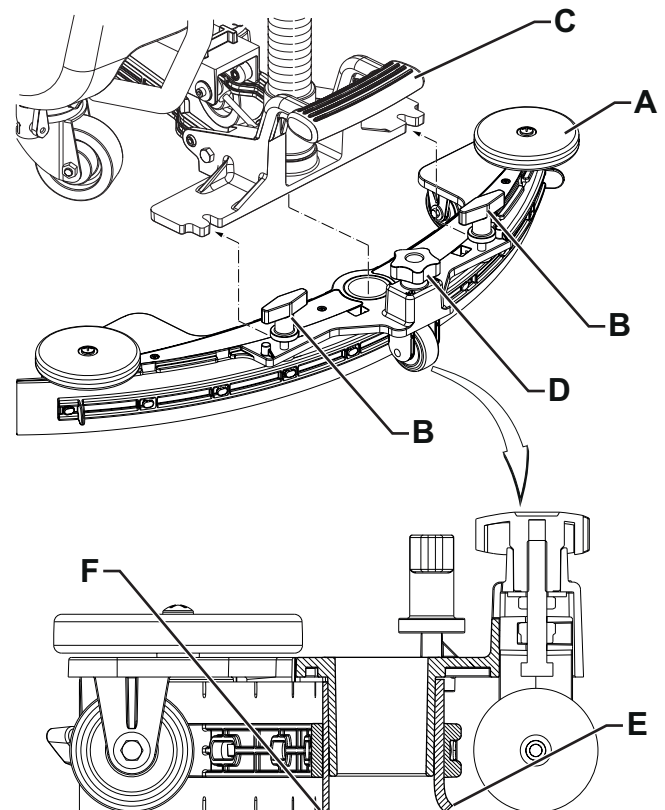

Figure 4
1. Install the squeegee (A, Fig. 4) and fasten it to the bracket (C) with the handwheels (B).
2. If necessary, adjust the squeegee with the knob (D) so that the rear blade (E) and front blade (F) touch the floor as shown in the figure.
For the first 3 flow levels (Fig. 4), the amount of solution dispensed is automatically adjusted according to the machine speed, in order to obtain a constant amount of solution per linear meter of cleaning.